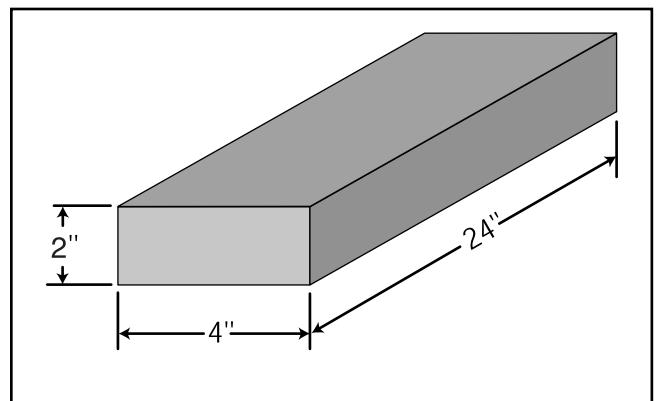

Figure 10. Dimensions of gauge block.
2. For this step, you will need a 24" long block of wood. A quality 2x4 will work fine (**See Figure 10**).